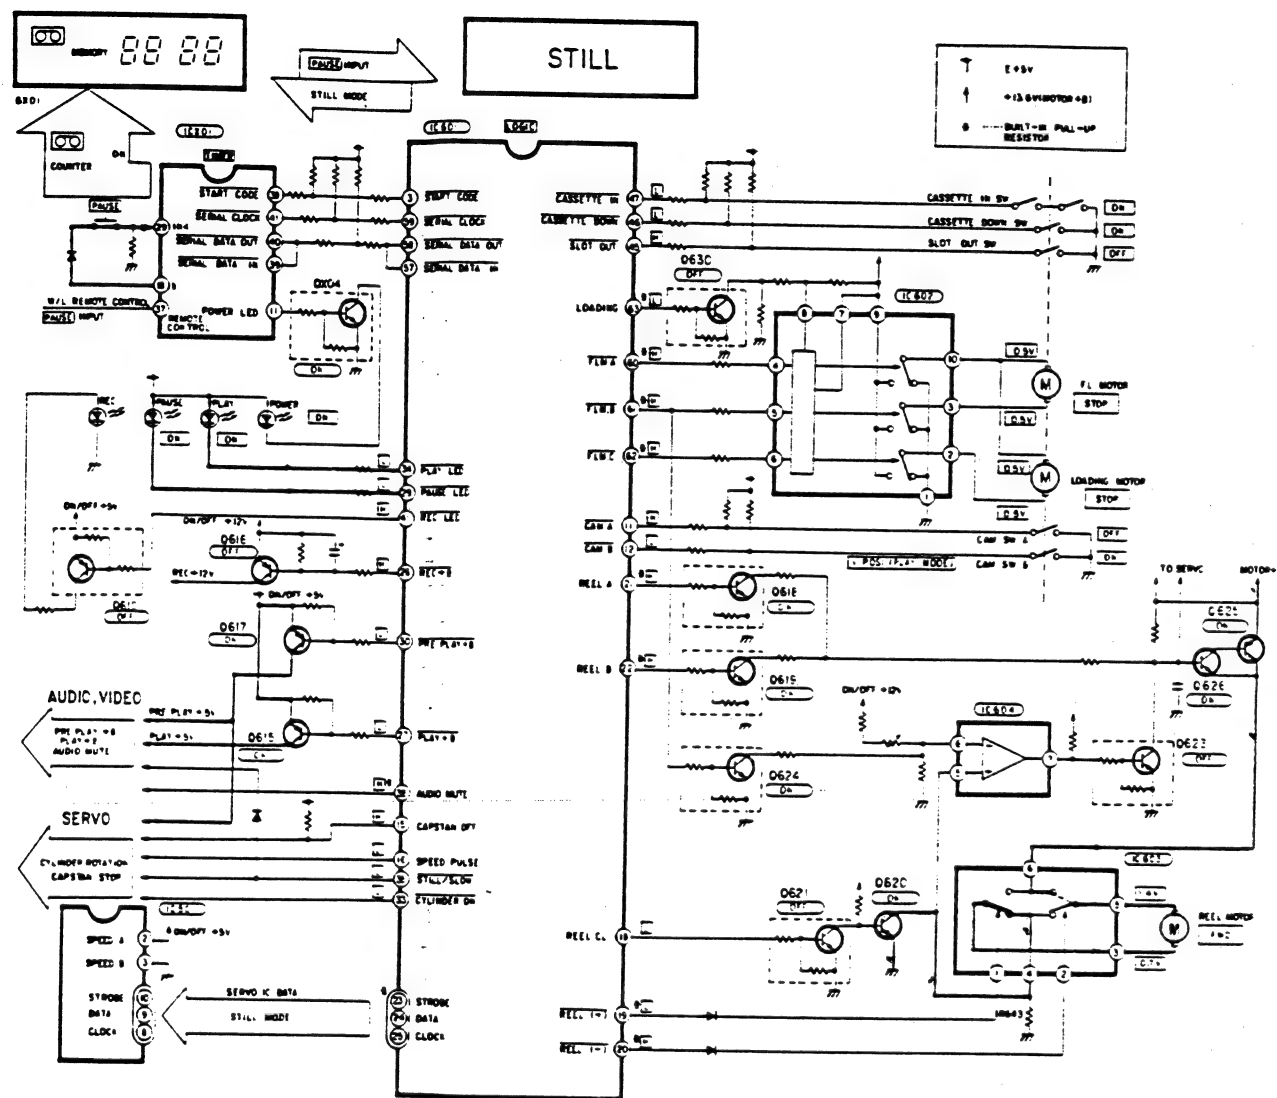

Fig. 3-4-7
2. The cam gear is in the playback mode (position V) and the cylinder motor is rotating. Under this condition each pin of IC601 develops output voltages as shown in Fig. 3-4-7.